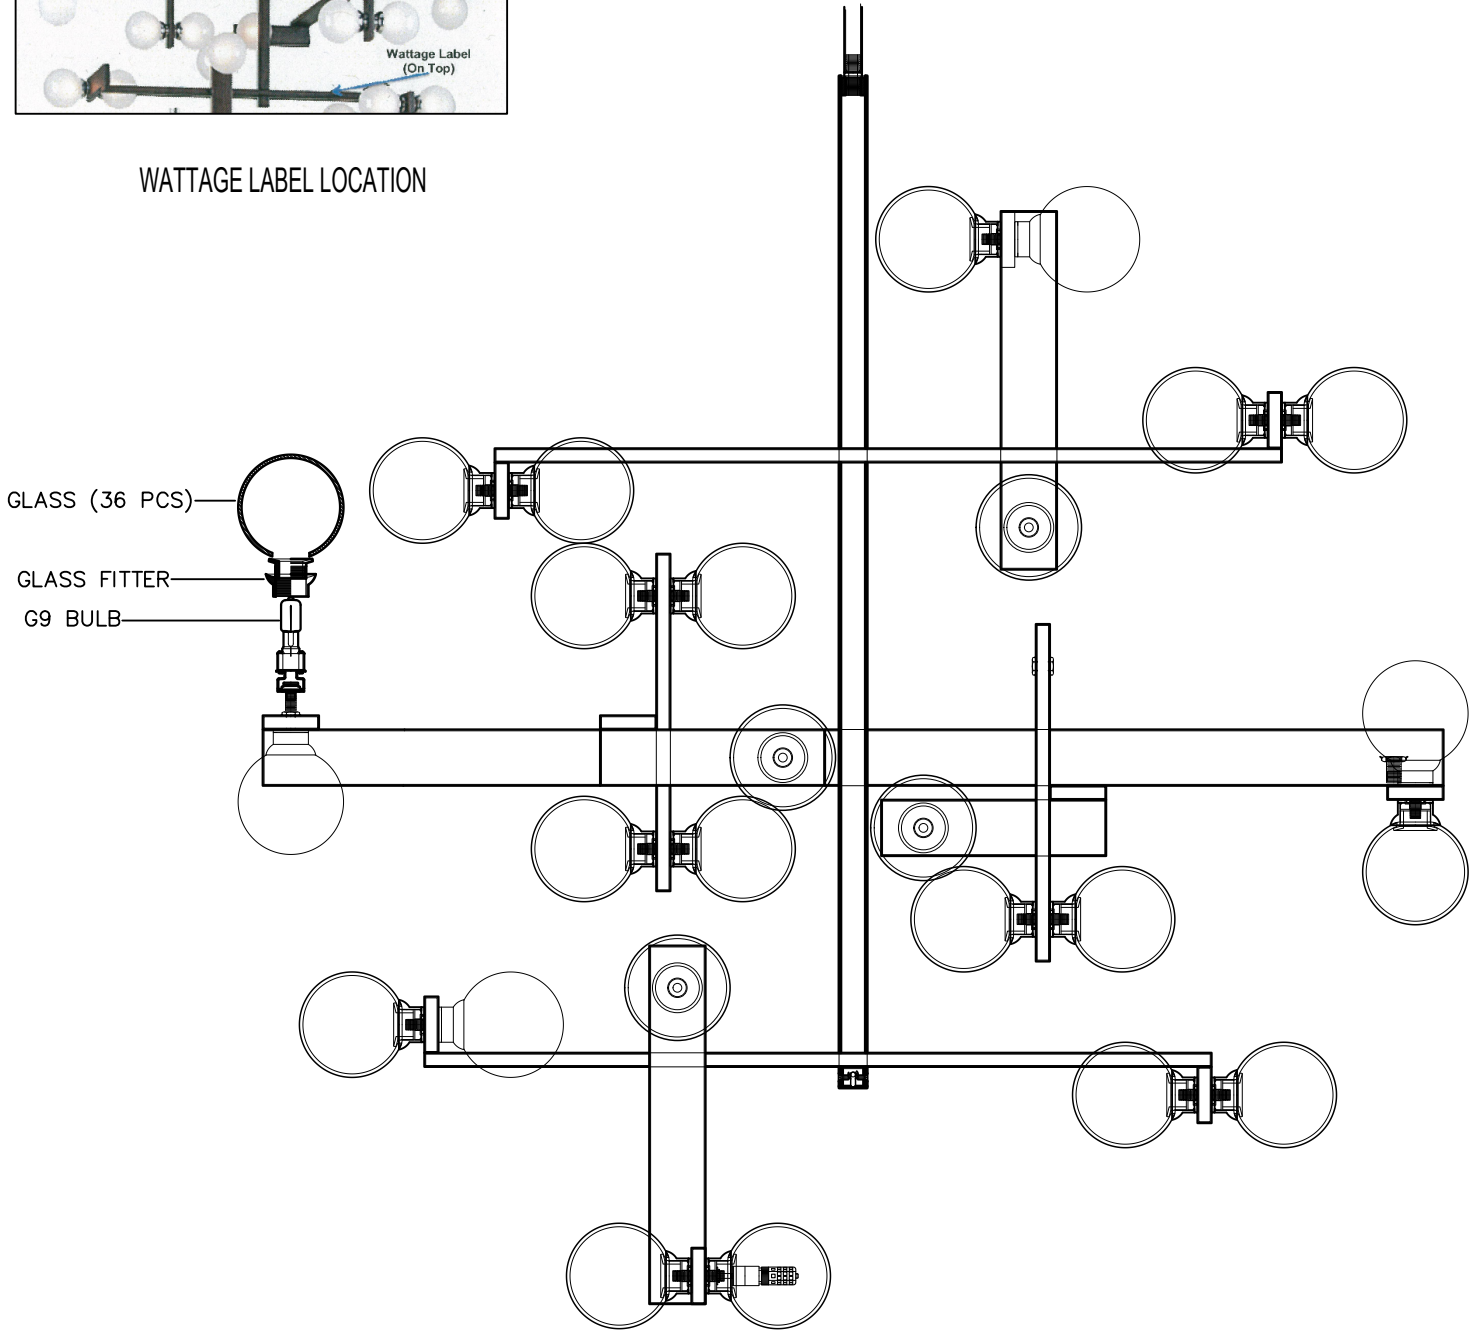

FIGURE-3
10. Place the glass diffuser into place using glass fitter attached with the glass. (See figure-3)